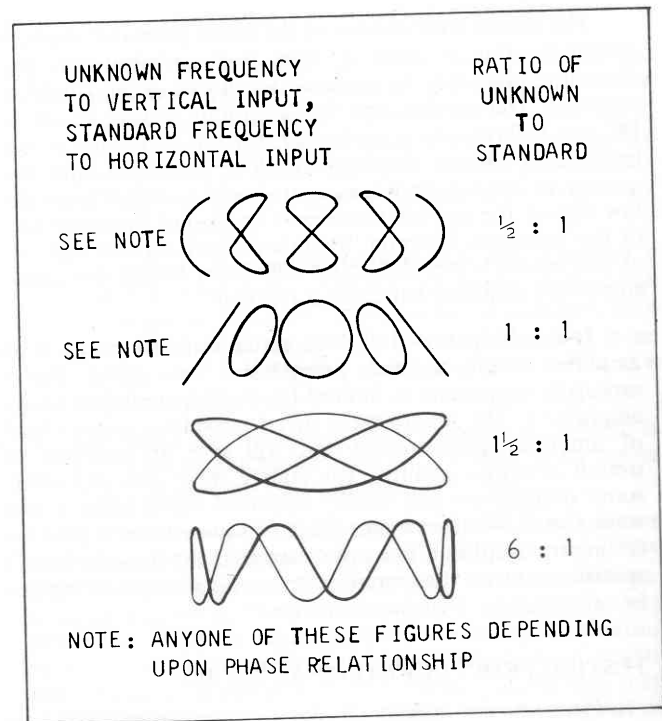

Fig. 37. Lissajous waveforms used for frequency measurement.
4. The resulting pattern, called a Lissajous pattern, shows the ratio between the two frequencies. See Fig. 37.